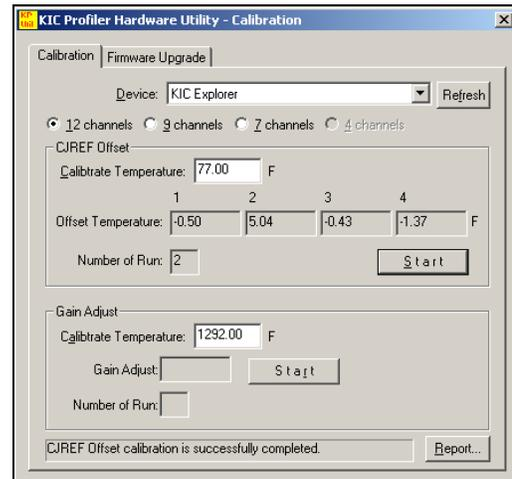

Figure 217
2. When both the *Calibration Temperature* field and the thermocouple simulator output values match, select the Gain Adjust-Start button to begin the *KIC Explorer* calibration. See Figure 217.